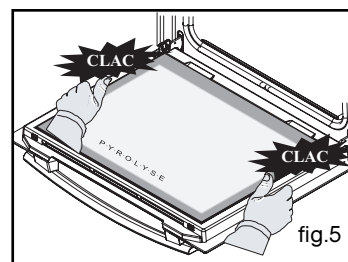

fig.5
• Plat multi usages 45 mm (fig.5)